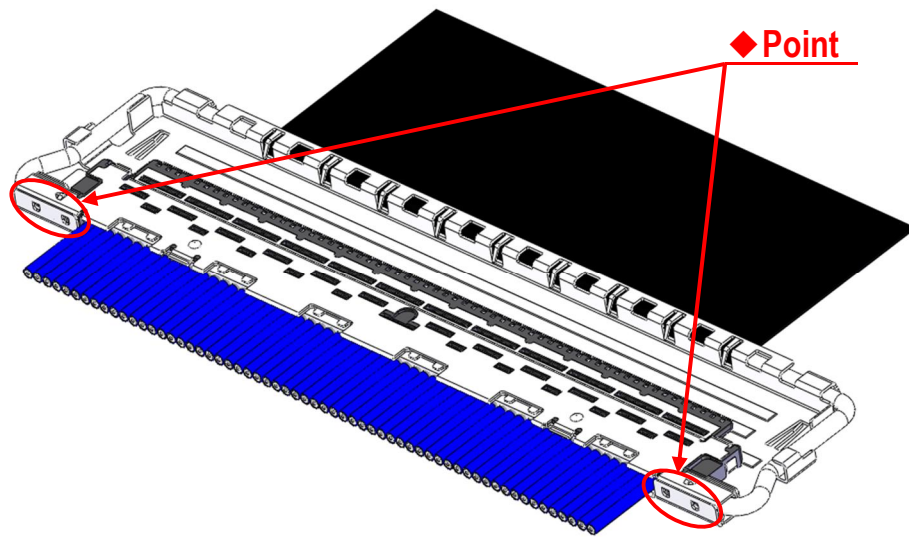

Fig.11 Soldering of Shell-A and Shell-B
- ⑥ Soldering shell-A and Shell-B with the soldering iron at all designated points is recommended. (Fig.11 ◆point)